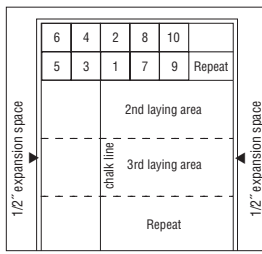

Figure 9
- Continue laying the balance of the 12" x 12" (30.5 cm x 30.5 cm) floor tiles along the starting wall area (Figure 9). Put each floor tile in place and gently push the floor tiles together to interlock the tongue-and-groove. Align each floor tile squarely.
- When the starting area has been completed, including cutting to the wall, proceed to the second laying area (Figure 9).